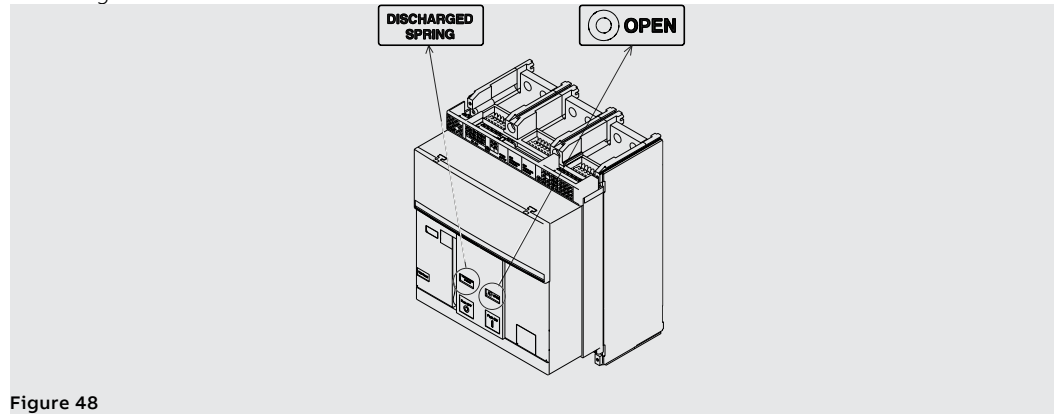

Figure 48
7. Check that the circuit-breaker is open (open / closed indicator "O - OPEN"), and check that the springs are discharged (spring signalling device "white - DISCHARGED SPRING") as indicated in Figure 48.